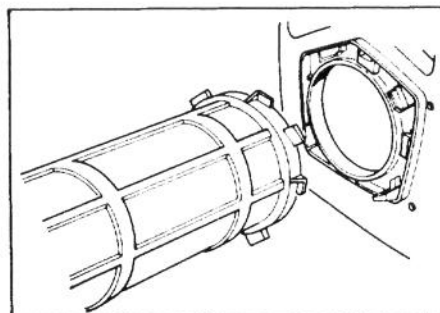

Fig. 4
4. Insert upper tube into blower inlet and rotate clockwise until tabs lock (Fig. 4). Angled end of lower tube should be positioned downward.